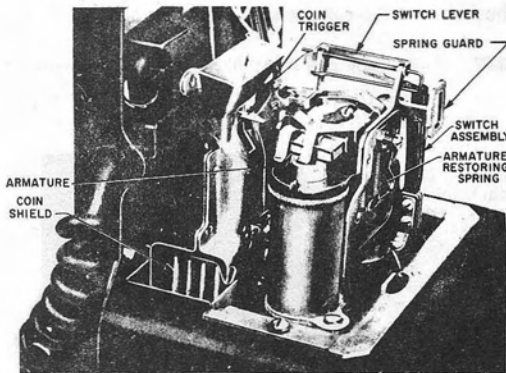

Fig. 15—Coin First Mechanism Unit, 2-Coil Coin Relay
- Manual or dial coin first 2-coil coin relay (Fig. 15)